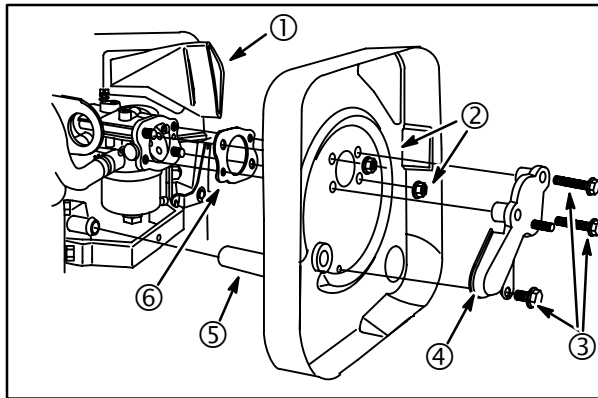

Fig. 37
**Current Style: (Round cartridge) Fig. 37.**
1. Install new air cleaner base gasket (6).
2. Guide breather tube (5) onto nipple on breather and install air cleaner base on carburetor mounting studs.
3. Install carburetor mounting nuts (2). Do not tighten nuts at this time.
4. Install breather deflector (4) and three screws (3). Torque nuts and screws to **65 in. lbs. (7 Nm)**.